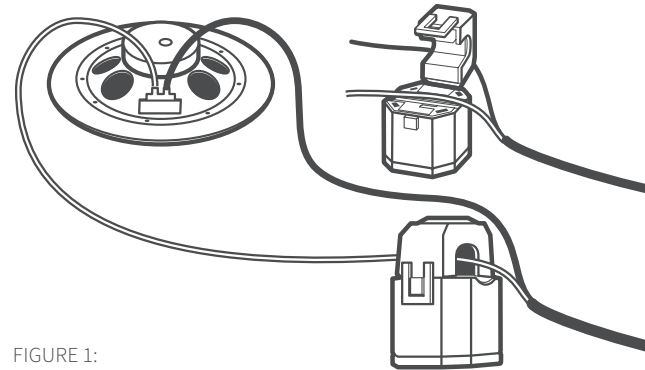

FIGURE 1:
2. Unclip and open the top loop of the PageFirst sensor. Hang it around one of the lead wires connected to the paging speaker and clip it back together (Figure 1).